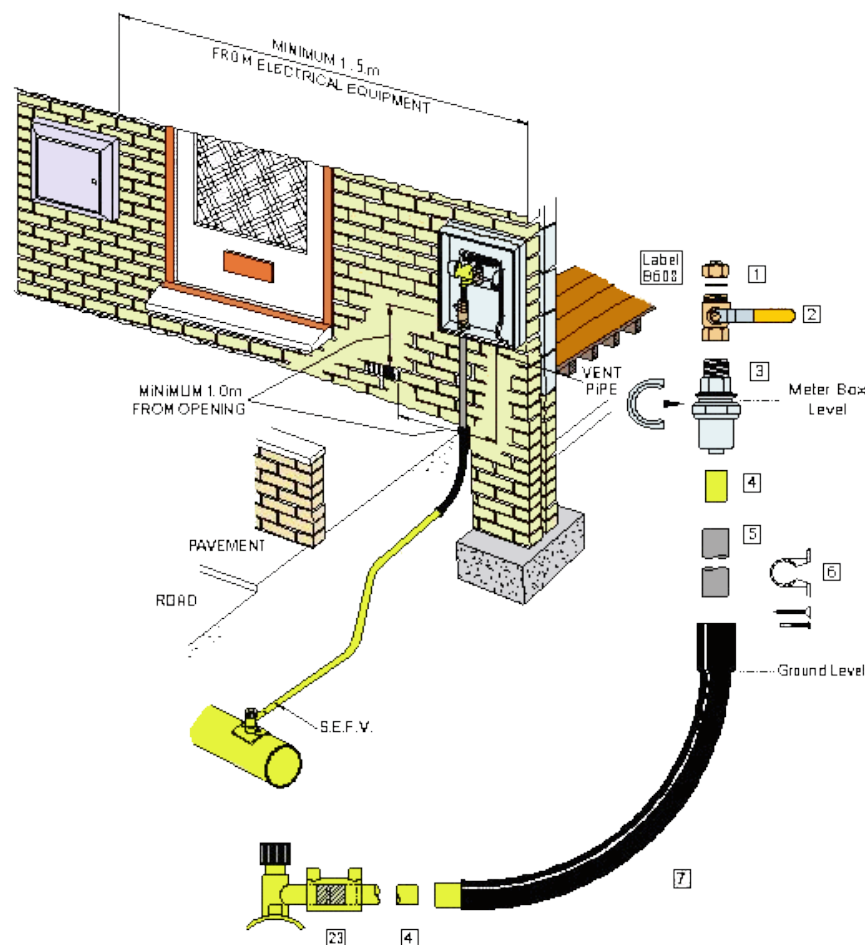

Figure 88 - MP service to inset meter box
2. The meter box must be located on the external wall to the property. (see Figure 88 and Table 46).